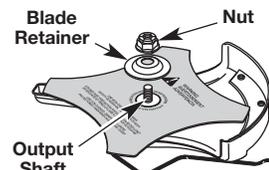

Fig. 9
2. Make sure that the cutting blade is centered on the pilot step and sitting flat against the output shaft bushing (Fig. 9).